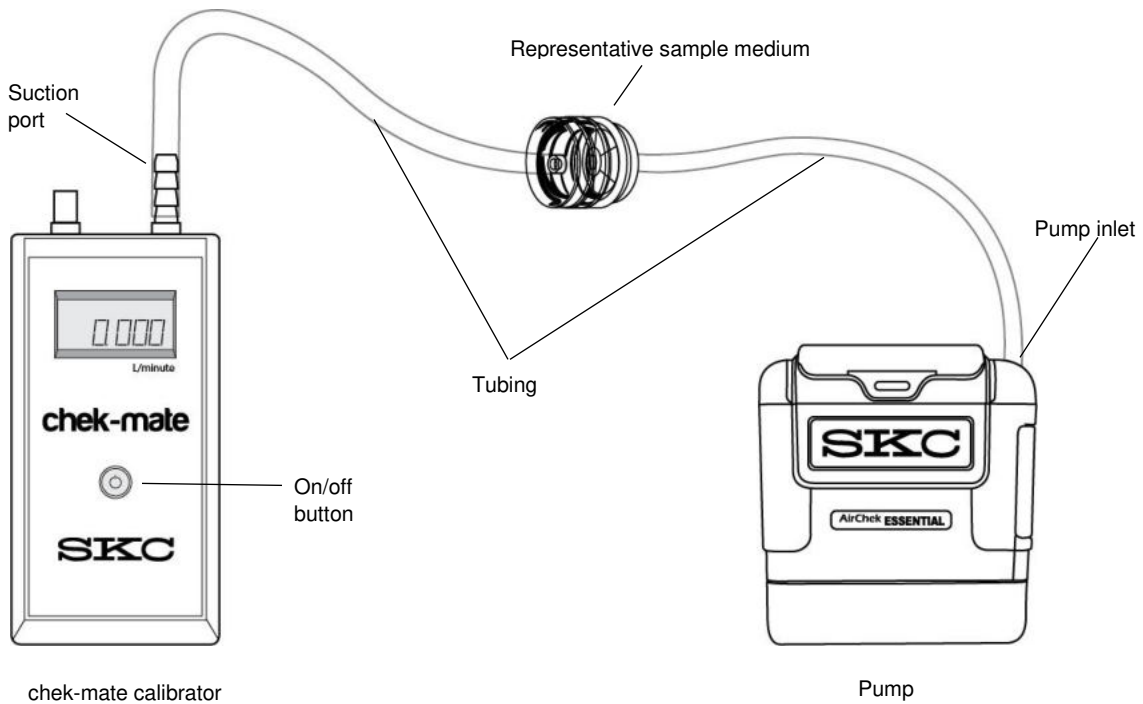

Figure 3. Calibration Train (1 to 5 L/min)
3. Set up a calibration train (*Figure 3*).